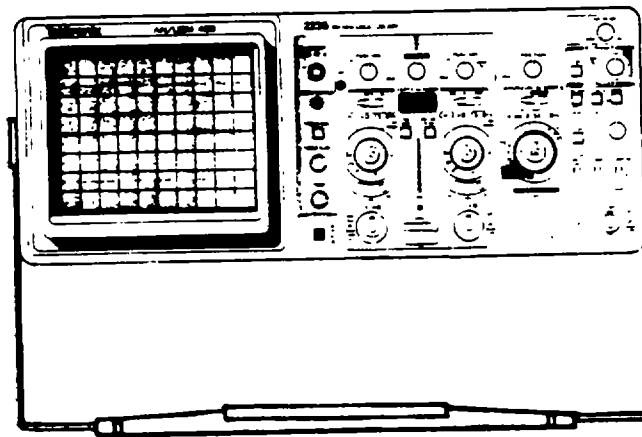

Figure 1-21. Oscilloscope
m. *Oscilloscope (Figure 1-21)*. The oscilloscope is a rugged lightweight, dual channel 100-MHz instrument that features a bright, sharply-defined trace on an 80- by 100-mm cathode ray tube (crt). Its vertical system supplies calibrated deflection factors from 2 mV per division to 5V per division. It is used to troubleshoot the electronic equipment within the laboratory.